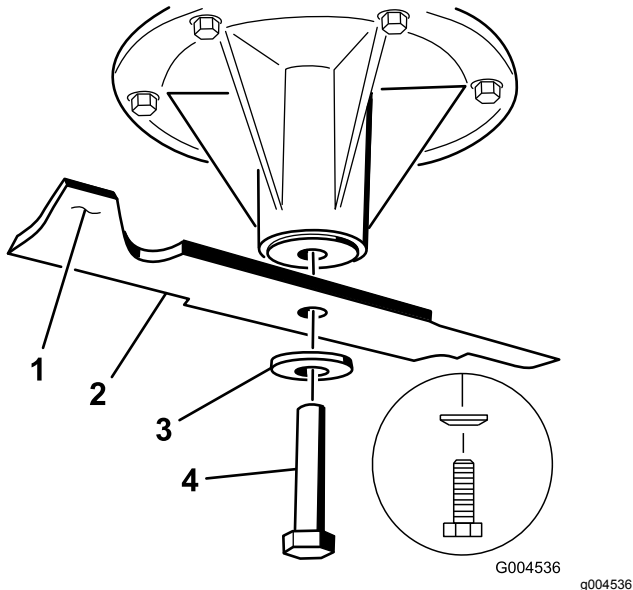

Figure 111
2. Remove the blade bolt, curved washer, and blade from the spindle shaft (Figure 111).
1. Install the blade onto the spindle shaft (Figure 111).
2. Install the curved washer and blade bolt (Figure 111).